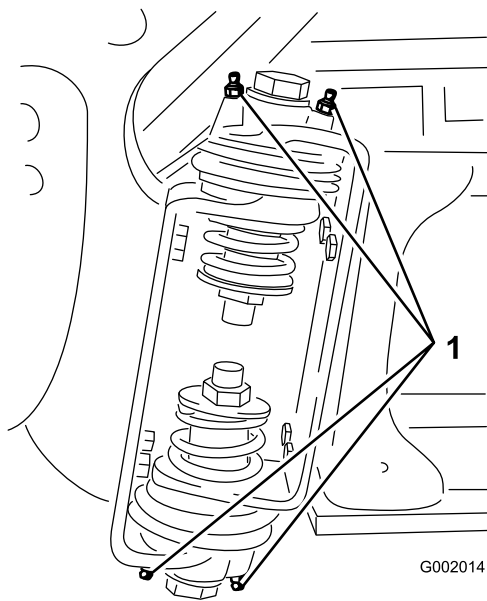

Figure 63
2. Pump grease into the bearing or bushing at each fitting (Figure 63).